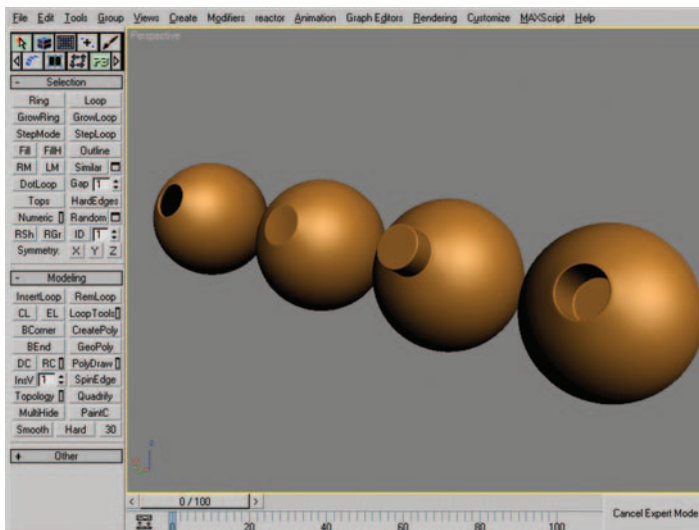

Figure 12.18 Alternate results created with the same technique.
20. You can use the same technique to create circular indents or to branch tubular structures off of your base mesh. Figure 12.18 shows some alternative results.